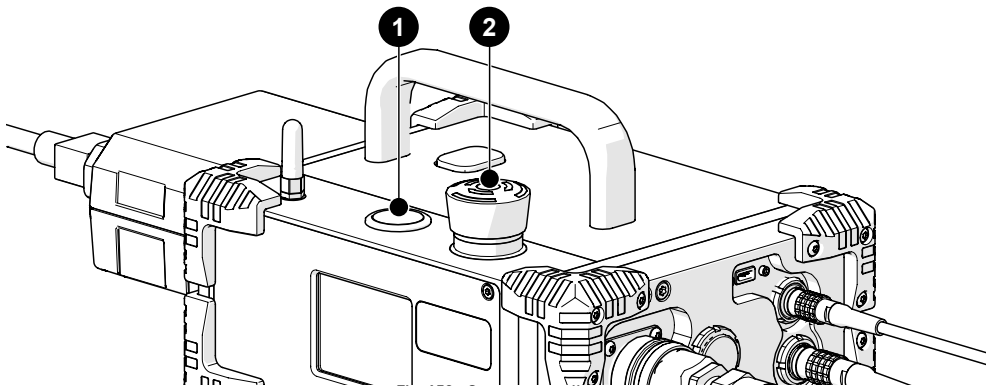

Fig. 153 - System controller
3. Locate the **2** red off push-button on the system controller. Rotate this button clockwise to unlatch (Fig. 153).
4. The **1** power button (Fig. 153) on the system controller energizes the crawler.